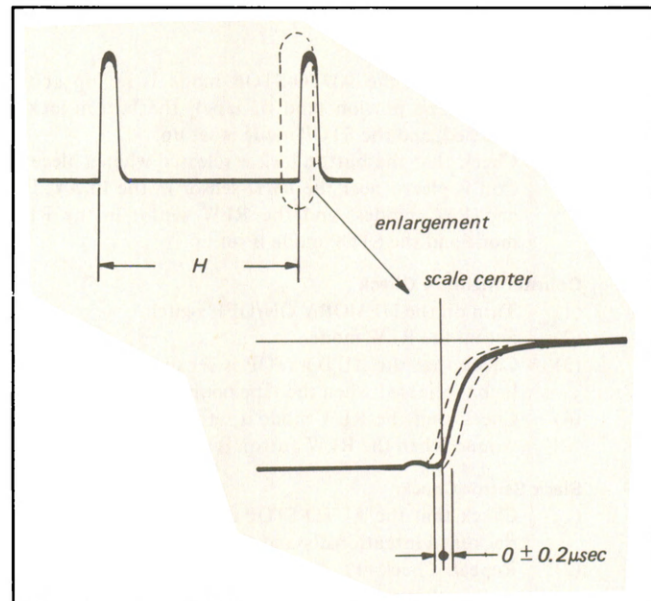

Fig. 4-11. BETA SCAN (CUE/REVIEW) free speed adjustment
- (1) Receive a telecast signal.
- (2) Record the signal in the β III mode on the center section of the L-500 cassette tape (in the state that the tape amounts on the take-up and the supply reel tables are equal).
- (3) Connect the oscilloscope to TP15 on the YC-4 board.
- (4) Play back the recorded portion.
- (5) Position the positive-going edge of the waveform at the exact center of the oscilloscope scale. (See Fig. 4-11.)
- (6) Depress FF (CUE) button on machine.
- (7) Adjust RV401 on the DS-3 board so that the deviation (jitter) of the rising section from the scale center (at the center of shaking) is $0 \pm 0.2 \mu\text{sec}$. (See Fig. 4-11.)
- (8) Depress REWIND (REVIEW) button on machine.
- (9) Adjust RV402 on the DS-3 board so that the deviation (jitter) of the rising section from the scale center (at the center of shaking) is $0 \pm 0.2 \mu\text{sec}$. (See Fig. 4-11.)